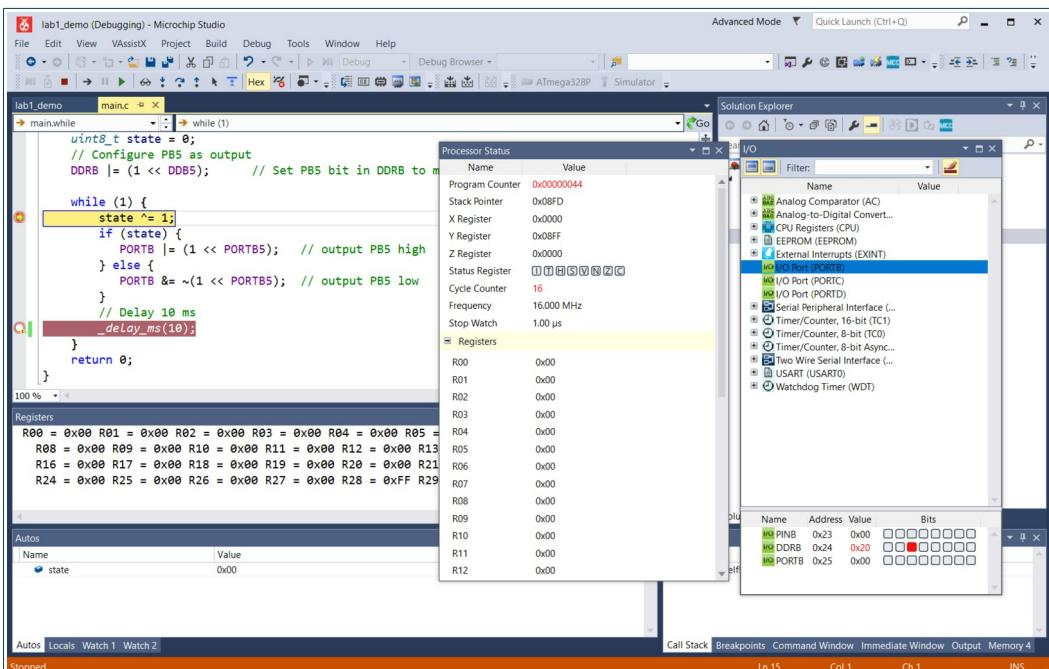

Figure 6: Breakpoint settings and simulated code execution
2.3 Set breakpoints on selected lines of code in **main.c** before stepping through the compiled code (see **Figure 6**).